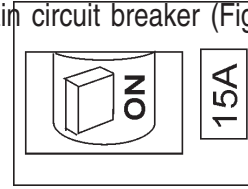

Figure 21. Main Circuit Breaker (ON)
- Place the main circuit breaker (Figure 21) in the **ON** position.